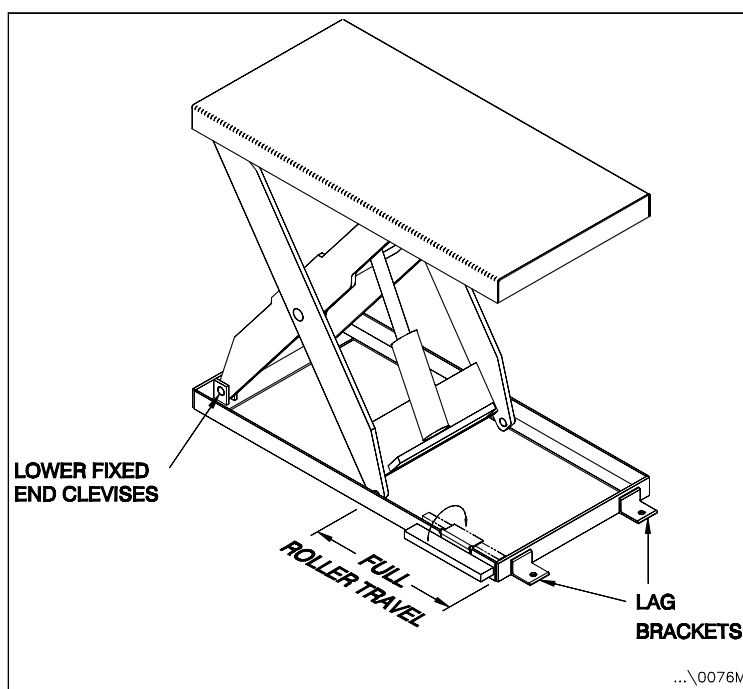

Figure 4: Shim Positions
8. If required, level the unit on both sides by shimming under the frame angle for the full roller travel, lower fixed end clevises, and lag brackets. (See "Figure 4: Shim Positions" on page 8)
10. If required, level the unit on both sides by shimming under the frame angle for the full roller travel, lower fixed end clevises, and lag brackets (See "Figure 4: Shim Positions" on page 8). Recheck the lift table for level and squareness in the pit.